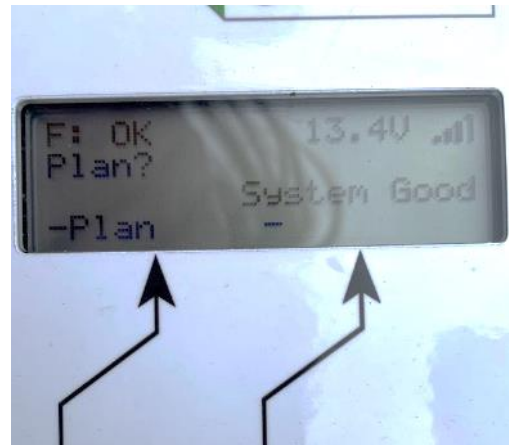

Figure 24
2. The operator can sit on the machine. The LCD display will ask "Plan?" (Figure 24).